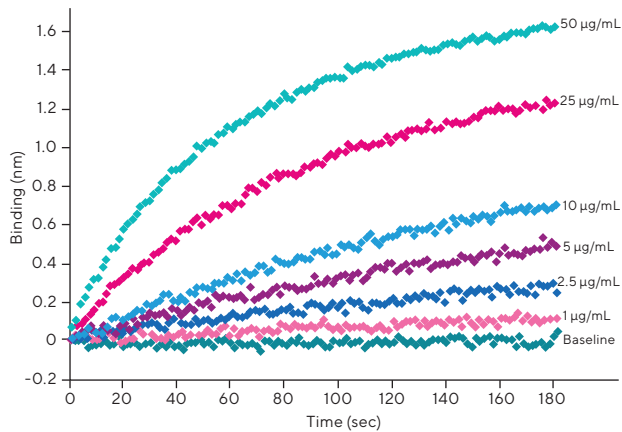

Figure 3: Calibration for endostatin-HIS using Streptavidin (SA) Biosensors.
A HIS-tagged endostatin standard curve was developed using Streptavidin (SA) Biosensors to first immobilize the anti-penta-HIS antibody (Qiagen part no. 34660) followed by capture and quantitation of HIS-endostatin. The data demonstrates good separation between concentrations (Figure 3) and precision (Table 1).